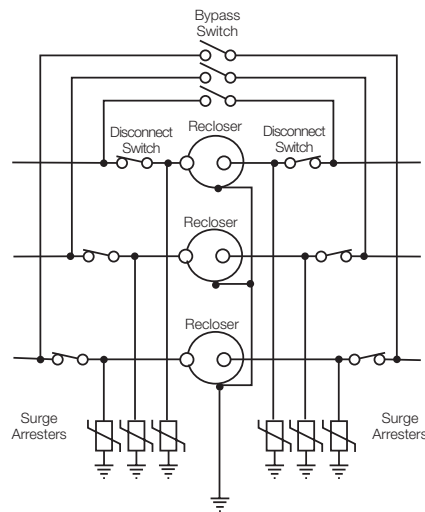

Figure 8. Connection diagram shows complete surge protection and illustrates bypass and disconnect switches.
- Make the high-voltage line connections. See Figure 8.